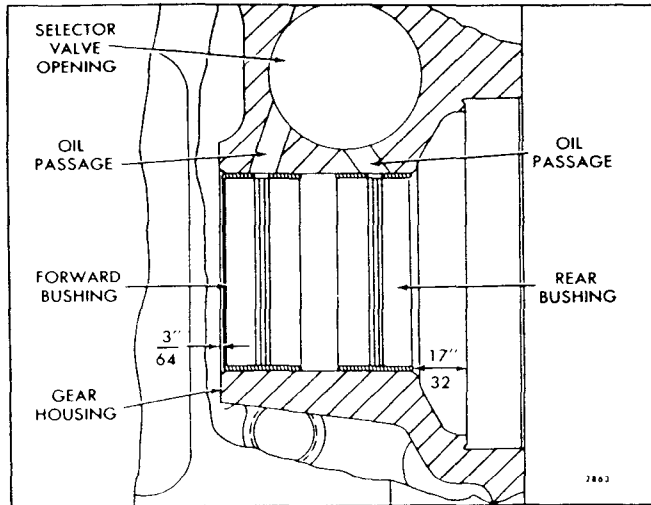
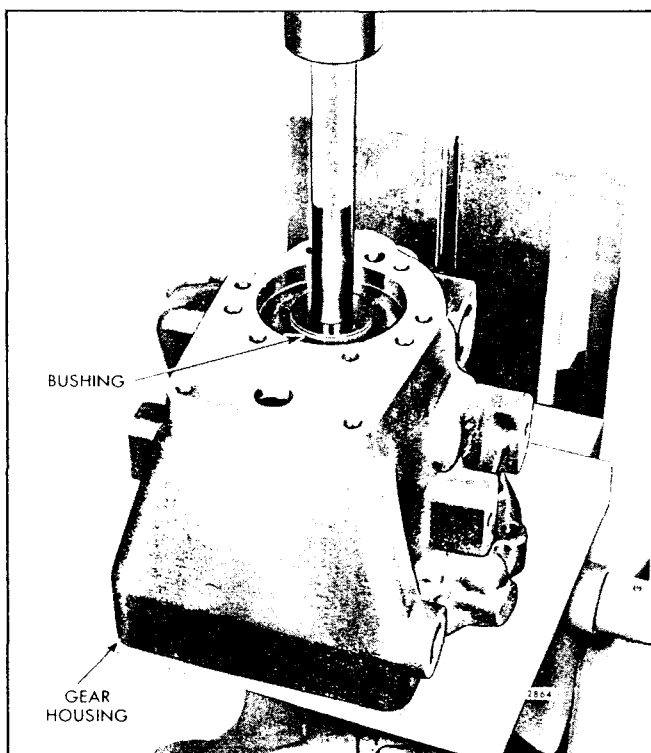

Fig. 44 - Location of Planetary Gear and Reduction Gear Input Shaft Bushings in Reverse Gear Housing
Fig. 46 - Installing Drive Shaft Bushings in Reverse Gear Housing
- c. Place the bushing remover and installer J 8466 with handle J 7079-2 in the bushing with the end of the handle under the ram of the press as shown in Fig. 46. Then press the bushing straight into the gear housing to the dimension shown in Fig. 44.